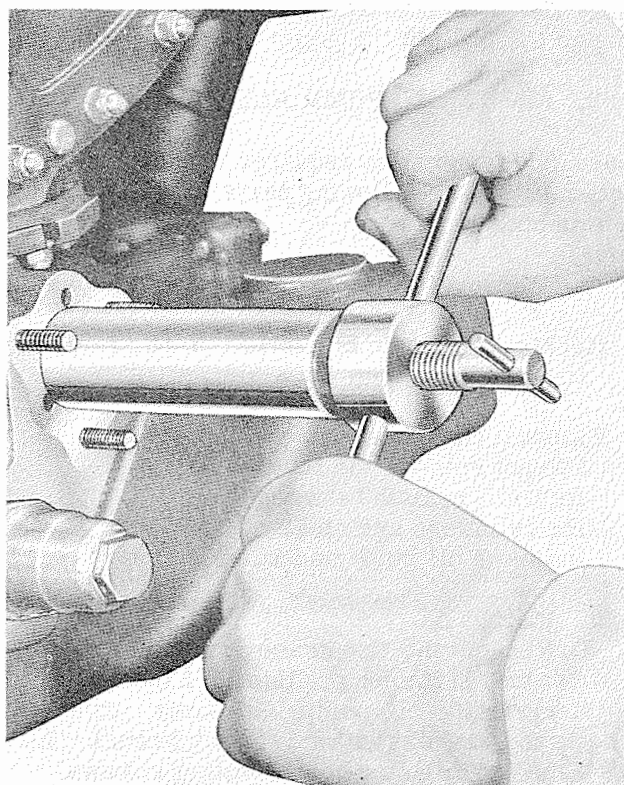

Figure 7-32. Removing Supercharger Clutch Oil Control Valve Sleeve
c. Position the tool sleeve over the bushing flange against the rear oil pump body. Turn the long handle and withdraw the sleeve from the pump. See figure 7-32.